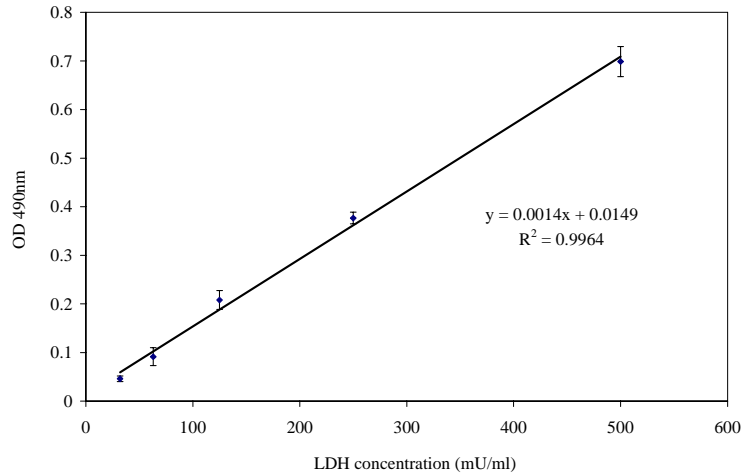

Figure 1. A typical LDH standard curve measured by ScienCell™ LDH Cytotoxicity Assay.
Data from ScienCell™ LDH Cytotoxicity Assay of LDH solutions with concentrations ranging from 500 to 7.8 mU/ml shows a linear relationship between OD490nm and LDH concentration (Figure 1). ScienCell™ LDH Cytotoxicity Assay is also applied to Human Astrocytes (HAs) seeded at different densities with (positive control) and without (negative control) Triton X-100 (Figure 2).
- Based on the calibrated OD490nm of the LDH standard, make a standard curve by plotting OD490nm as a function of LDH concentration. (See Figure 1 for a typical standard curve.) Determine the equation and R2 value of the trend line.